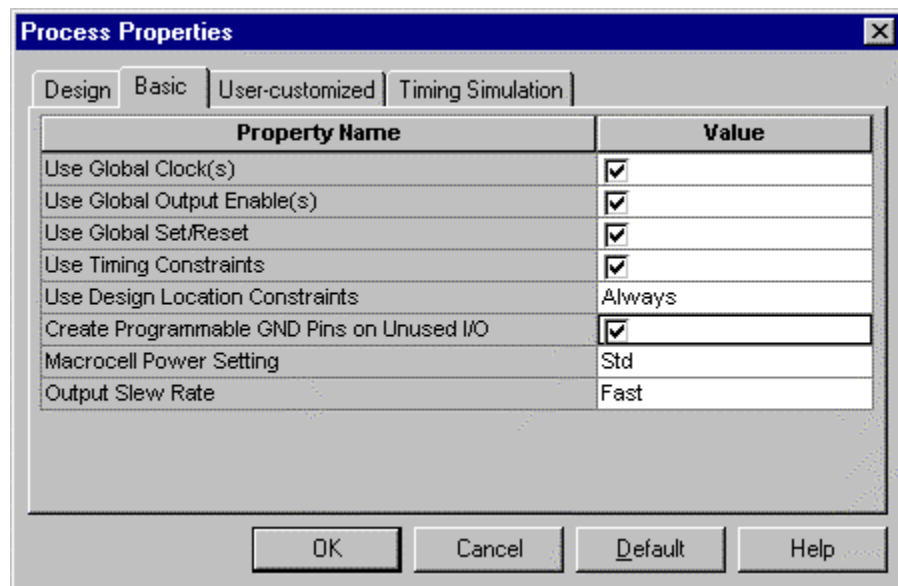

Figure 6: Xilinx XC9500/XL/XV Implementation Options in WebPACK ISE Software Package
**Create Programmable GND Pins on Unused I/O** – By default this option is not selected. It is recommended to check this option to prevent unused I/O from floating and drawing additional power (Figure 6).